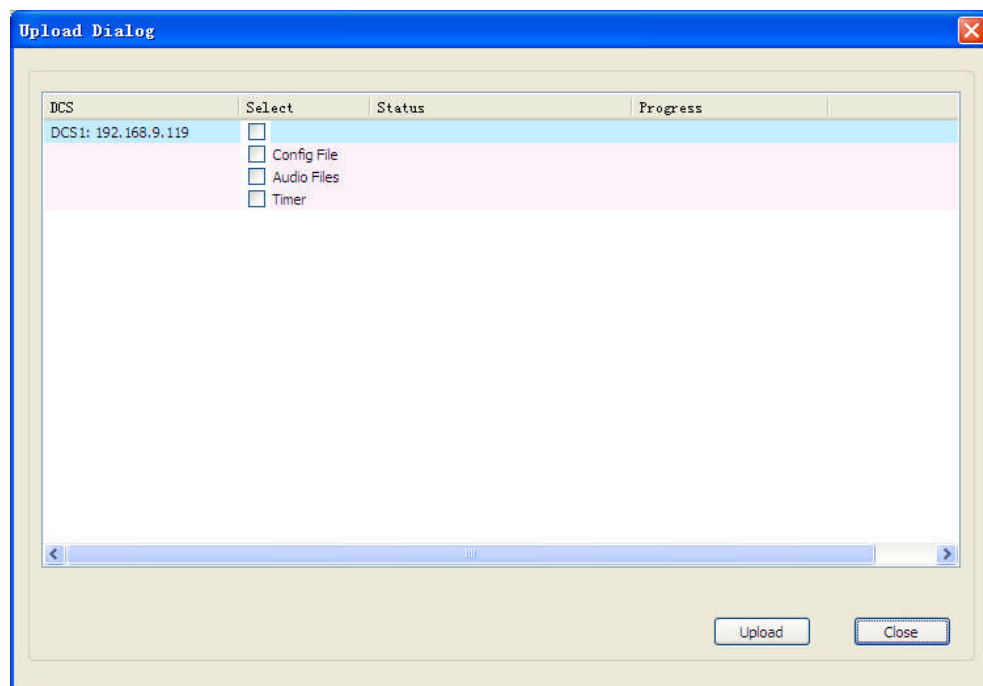

Figure 4 **Upload Dialog**
1. Click the  icon for uploading the configuration files on the menu bar or select the menu command **Communication** → **Upload**. The Upload Dialog is displayed as shown in Figure 4.